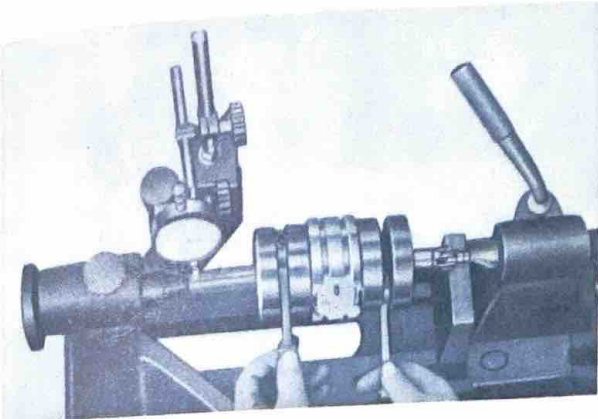

Fig. 4-17-19
- (1) Place the crankshaft ass'y on V block or other suitable centering device and check for alignment. (Fig. 4-17-19)